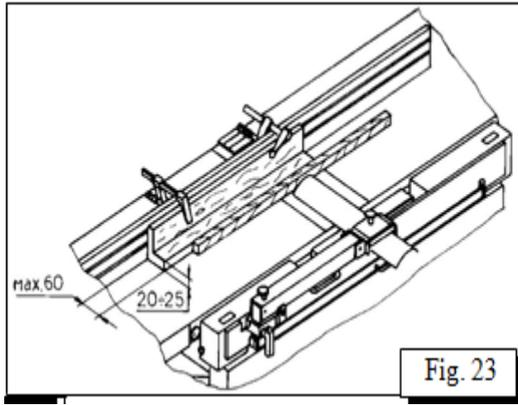

Fig. 23
- For processing of narrow pieces you can use your own additional rest, which is fixed on the supporting ruler ) e.g. by means of two binding clips) (fig. 23)